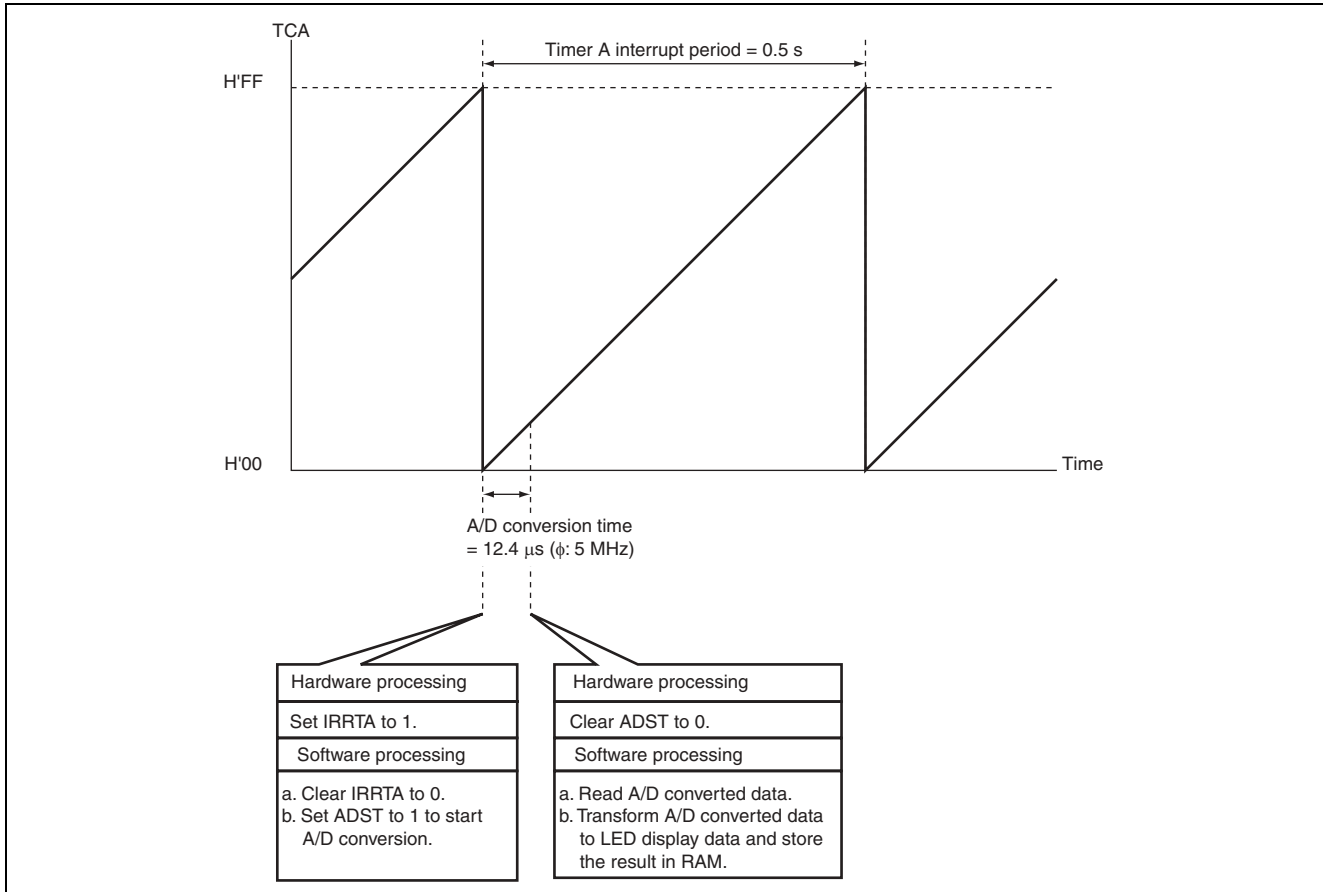

Figure 3.1 Operation Principle of A/D Conversion of AN2-Pin Signal Using Timer A
- Figure 3.1 shows the principle of operation in the use of timer A and A/D conversion carried out on the AN2 pin. The A/D conversion interrupt is not used in this sample task. Instead, the completion of A/D conversion is detected in the tmra interrupt processing routine.